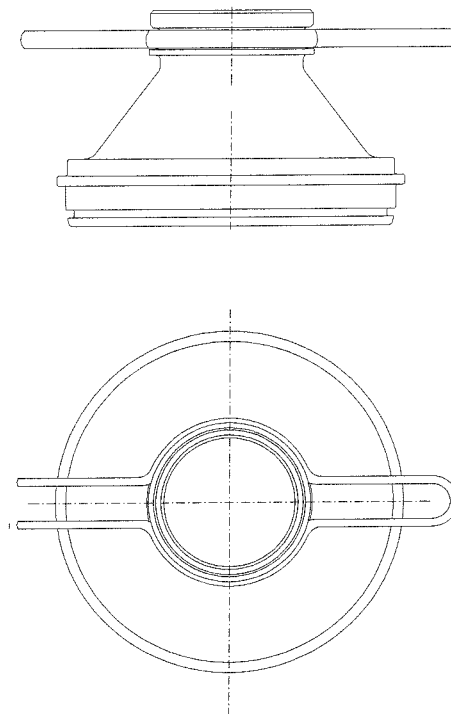

Figure 6.7
10) By the spanner (09.010.0), place down the **bowl hood** (fig 6.1 - part 9). Proceed as follows (fig 6.7) :
- 9) By the spanner (09.010.0), extract the **bowl hood** (fig. 6.7). Proceed as follows: